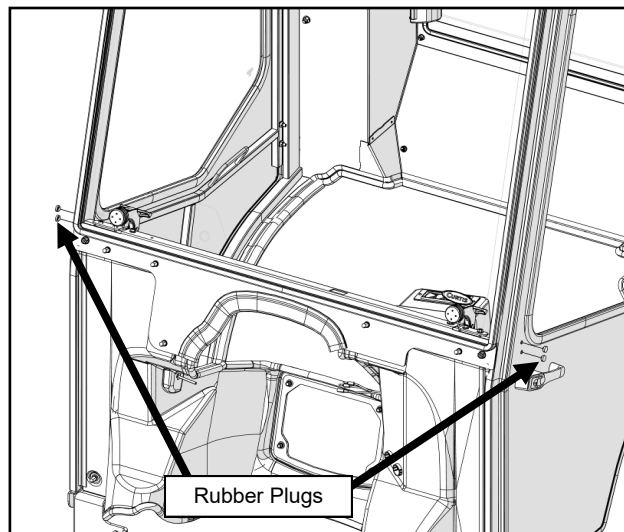

Fig. 23.1a (Install Plugs, Door)
23.1 If installing accessories, please do so now. If not, use the supplied plugs to fill any exposed holes. See Figures 23.1a and 23.1b.